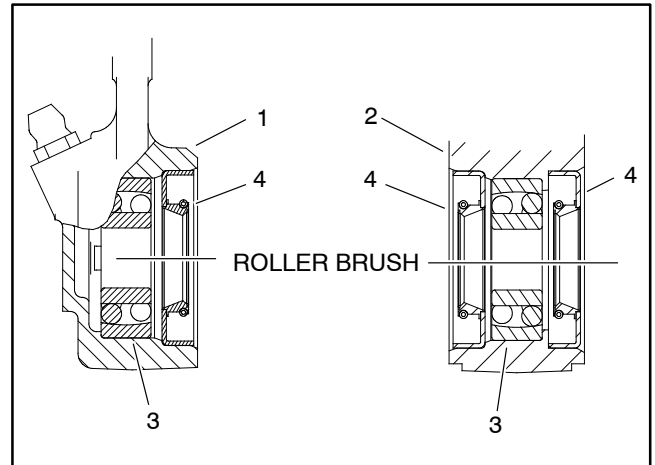

Figure 56
- C. Install grease seals as shown (Fig 56). Press seals into housing so that seals contact bore shoulders.